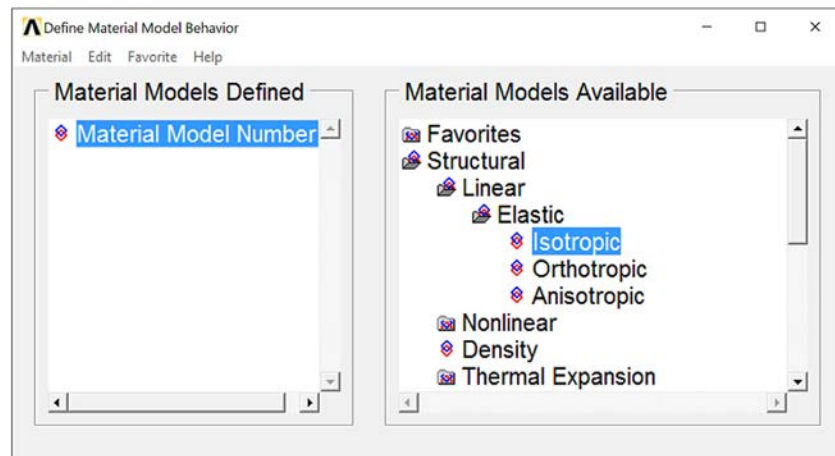

Figure 2-1-8 Choosing a Material Model.
- In the right column, follow the path: Structural > Linear > Elastic > Isotropic (Figure 2-1-8)